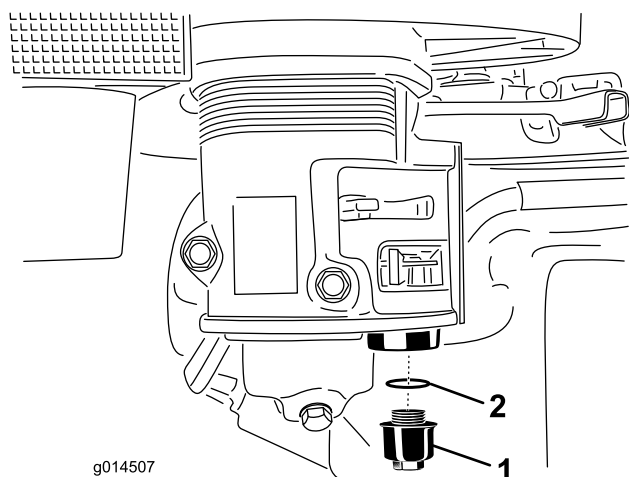

Figure 17
2. Unscrew the sediment cup. Make sure not to misplace the O-ring (Figure 17).